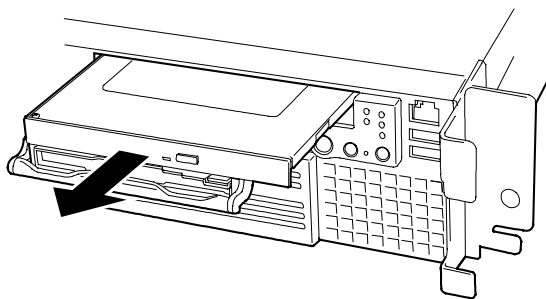

Figure 4-58. Removing the Drive from the Flex Bay
4. Hold the carrier handle, and pull it out straight to remove the floppy disk and CD-ROM drives from the flex bay. See Figure 4-58.